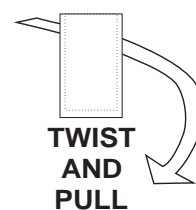

fig. 1
- Remove the protective cap by gently twisting and pulling it off (see fig. 1).